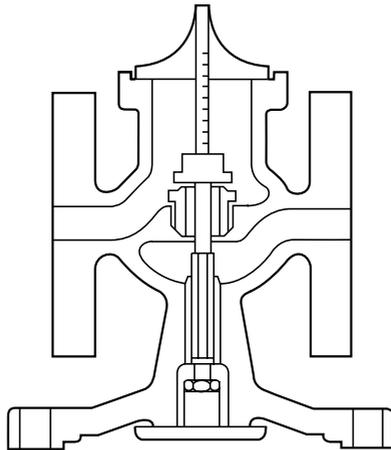

Fig. 7
2. Undo the union nut (27C) and the pressure pipe union nut (29) and release the 6 mm stainless steel pipework.
3. Undo the 4 nuts (21) and remove the pilot valve housing (10) complete with the spring housing assembly.
4. Remove the main valve return spring (16) and the main valve (17).
5. Using a socket (see Table 2) remove the main valve seat (18).
9. Where a part had been fitted or where extensive lapping has taken place, it will be necessary to reset the main valve pushrod (26) to give the correct valve lift.
11. Refit the pushrod (26) and replace the main valve (17) making sure it is located onto the main seat.
12. The main valve can now be opened by pushing on the main diaphragm plate (25) until it comes up against the stop on the body, see Figure 7. Check the valve lift by using a depth gauge as shown.
13. If the lift is different from that shown in the Table 3, slacken the lock-nut (30) and adjust the lift by screwing the pushrod (26) in or out of the main diaphragm plate (25). When the lift is correct, retighten the lock-nut (30).